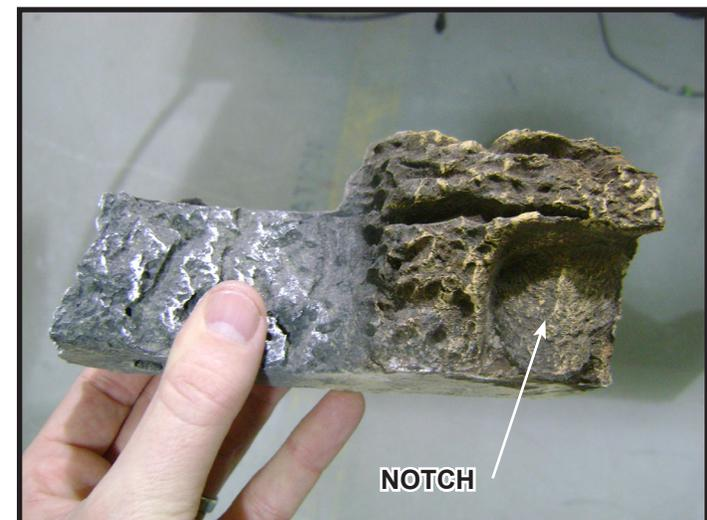

Figure 11. Log #4
**Log #4 (SRV2227-705):** Mate the slot on the bottom of the log, shown in Figure 12, with the log pin located on the burner surface. The notch on the right end of the log should mate with the grate bar. See Figure 11.